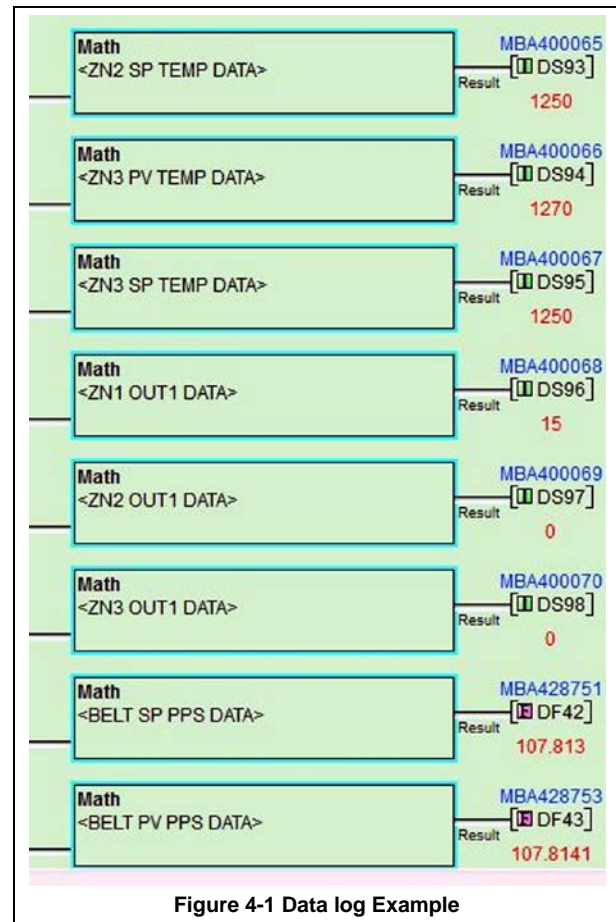

Figure 4-1 Data log Example
- 3.2 Using owner supplied network, user connects to furnace Ethernet Port (labelled "PORT1") on the PLC CPU (Fig 4-1). This connection can be maintained indefinitely.